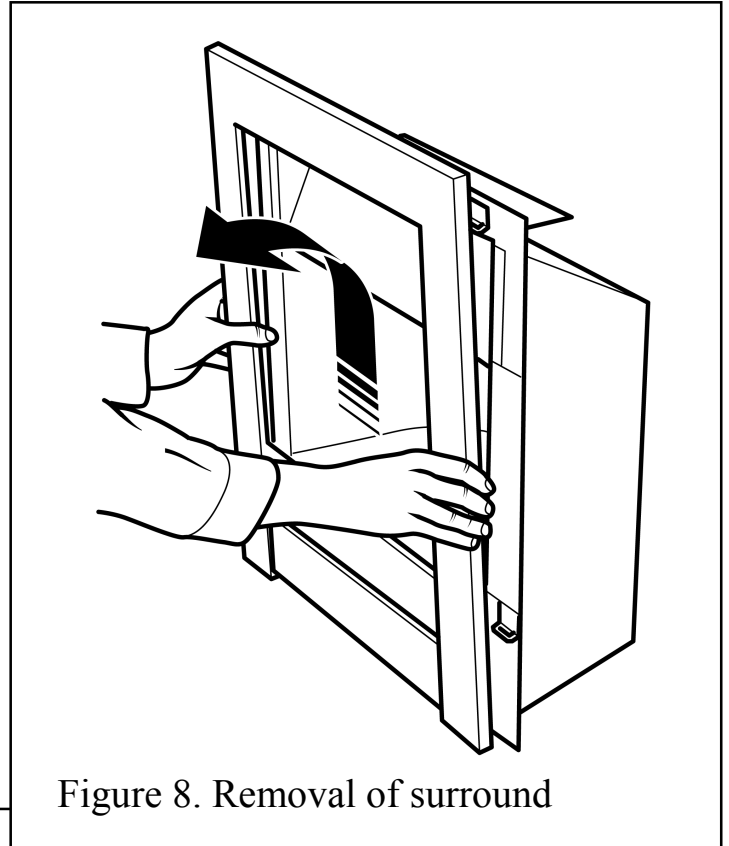

Figure 8. Removal of surround
1. The surround is held in place by four retaining plates at the back of the surround. These slot into four retaining brackets on the hotbox. To remove the surround, hold the sides of the surround and lift upward and forward. The surround should lift clear of the hotbox (See figure 8)